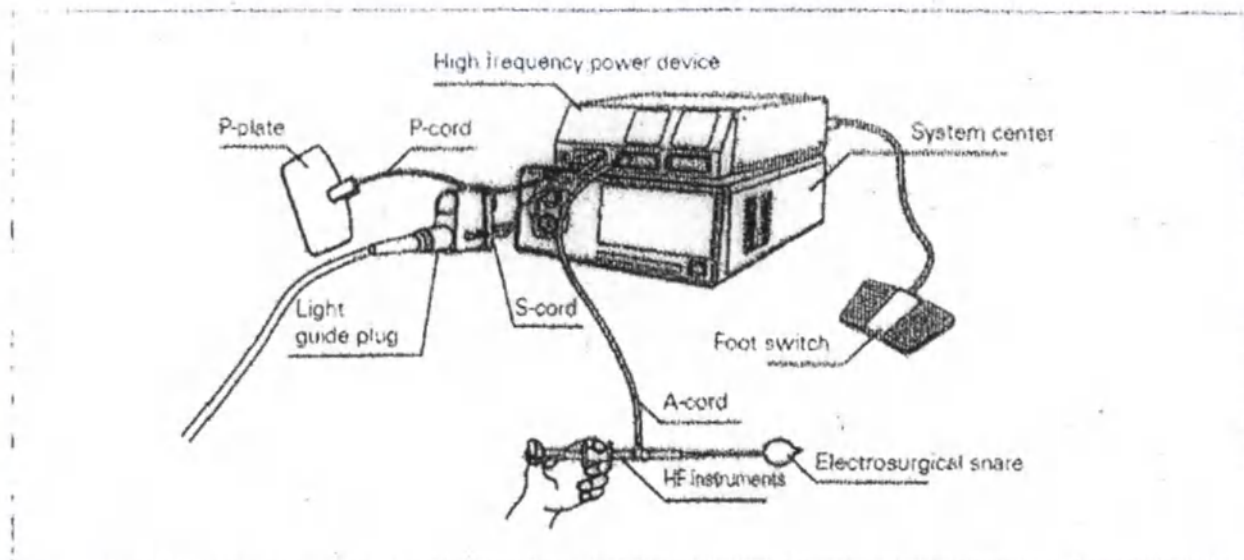

Fig.9.
- Connect the electrosurgical loop, video endoscope and video processor using the method shown in Fig. 9. For detailed information on how to connect, see the manual to the electrosurgical loop and video processor.